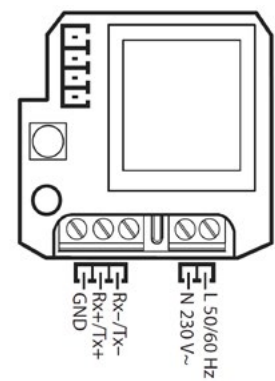

Fig. 7
- for the 230 Vac models see Fig. 7.